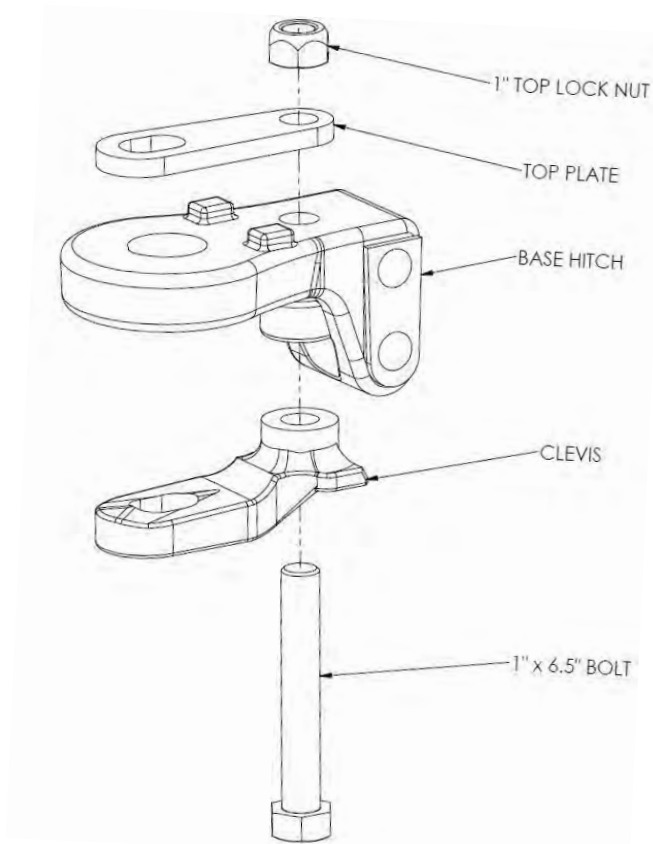

Figure 2
5. Assemble pintle hitch (Figure 2). Note the opposite orientation of the base hitch for each hitch type. Attach the hitch assembly to the A-frame with two 1" x 6 1/2" bolts and locking nuts. Be sure to include the hose rack as shown.